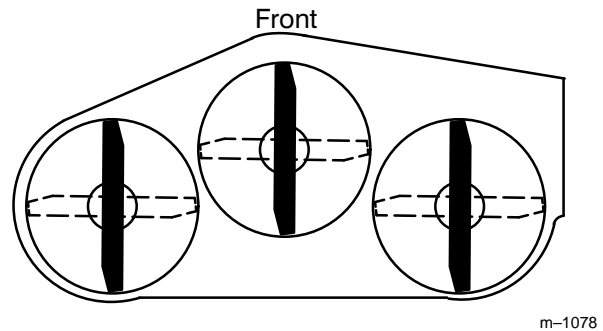
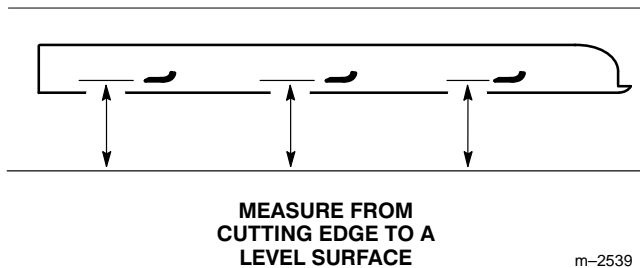

Figure 11
Figure 12
1. Rotate the blades until the ends face forward and backward (Fig. 11). Measure from a level surface to the cutting edge of the blades (Fig. 12). Note this dimension.